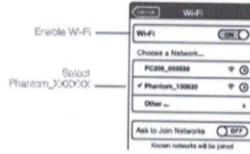

Figure 45
- (1) Power on the Remote Controller and the Range Extender.
- (2) Power on the Phantom 2 Vision+.
- (3) Enable the Wi-Fi on your mobile device; wait for about 30 seconds, and then select "Phantom_XXXXXX" from the Wi-Fi network list (Figure 45).